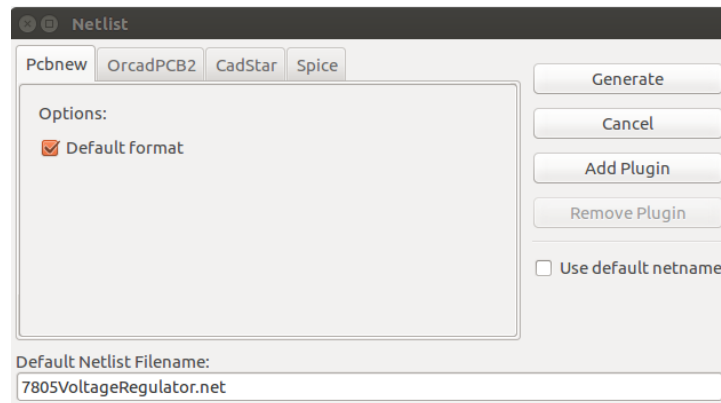

Figure 12.9: Netlist generation for PCB
3. In the Netlist window, under the tab *Pcbnew*, Select the option **Default format**. This is shown in Fig. 12.9. Click on **Generate** option.